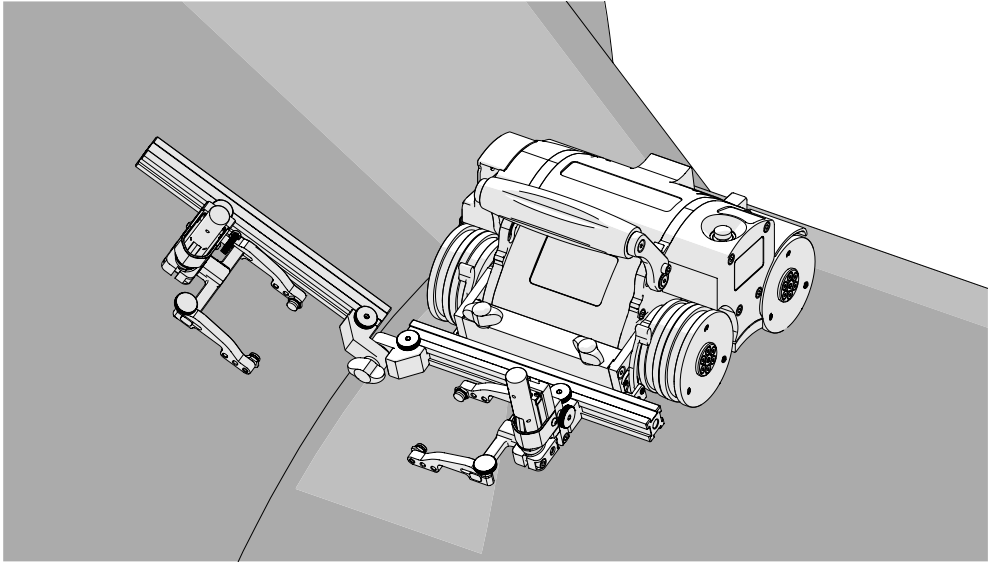

Fig. 158 - Align frame bar with flange scan surface
4. Loosen the pivot wing knob and align the frame bar parallel with the scan surface (*Fig. 158*).